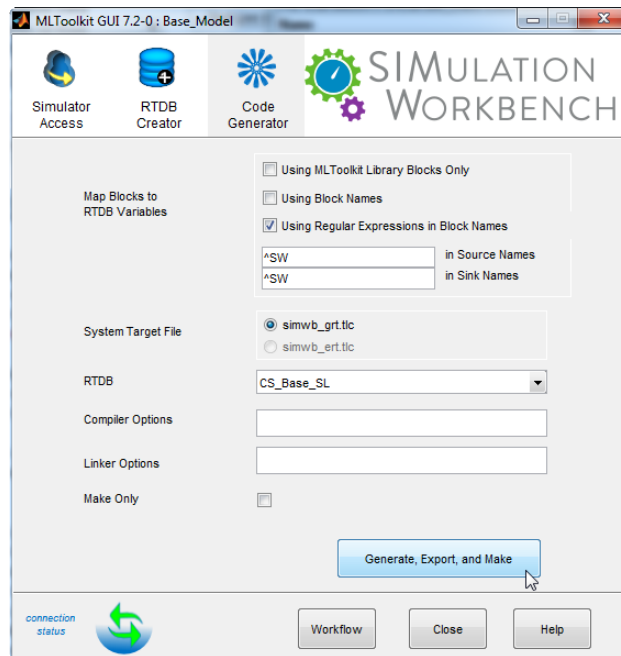

Figure 13. Simulation Workbench, Code Generator.
3. Click the **Code Generator** icon (Figure 13). Select the name of RTDB you have just created from the Simulink, CS_Base_SL. Press **Generate, Export, and Make** button. This generates code for the Simulink model, create a makefile and uses GCC compiler to